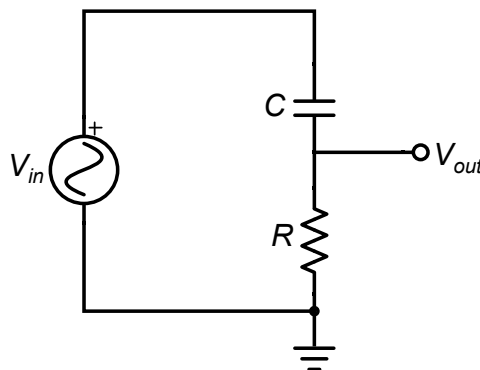

Figure 1 - A high-pass filter circuit is constructed with a resistor and capacitor.
In this portion of the lab, you will construct the RC circuit shown in Figure 1. You will then measure the amplitude of the output voltage $|V_{out}|$ as a function of the driving frequency f .
2. Construct the circuit in Fig. 1 using $R = 1 \text{ k}\Omega$ and $C = 0.047 \text{ }\mu\text{F}$.